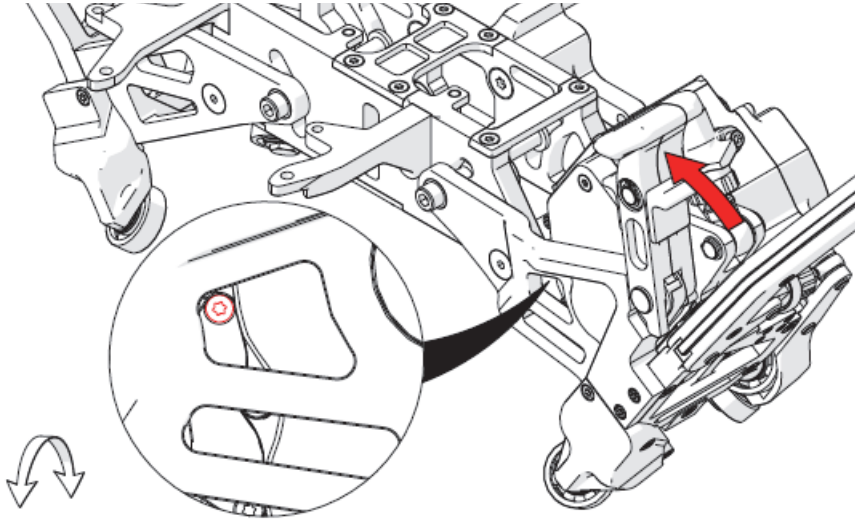

Figure 2-4 Removing Torx screw from top of drive wheel guard
1. Disengage the motor engage handle, revealing a Torx screw near the top of the drive wheel guard (see Figure 2-4 on page 86).